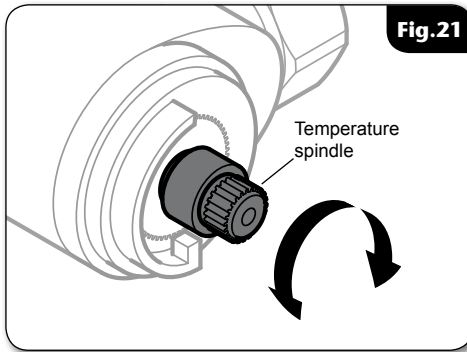

Fig.21
- Turn the flow control to full flow. With a steady flow running, adjust the temperature spindle until the temperature is about 38°C (**fig.21**).